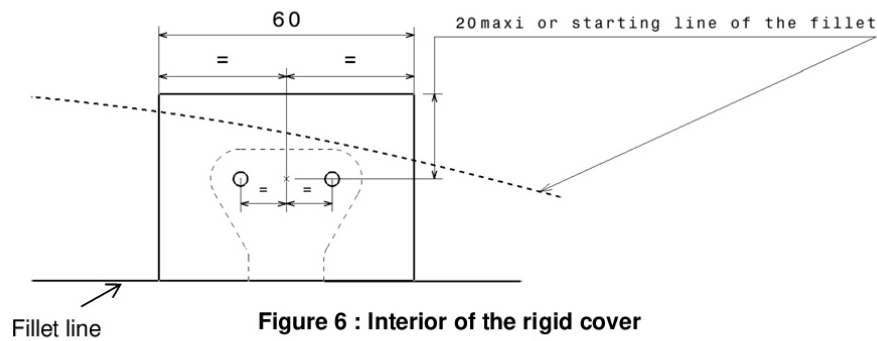

Figure 6 : Interior of the rigid cover
2. Trace the contour of the area to be repaired using the center of the fixation points of the hinge as a reference, see Figure 6.